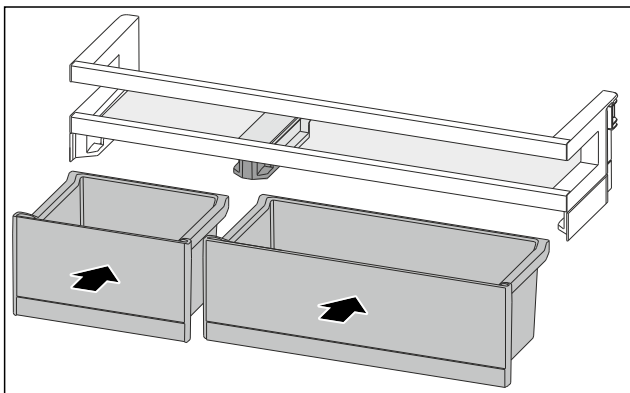

Fig. 106
- ▶ Insert the VarioBoxes in reverse order. (see Fig. 106)